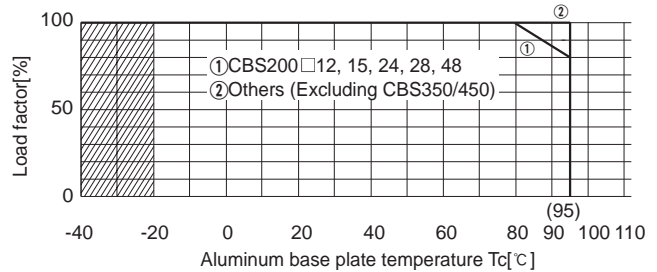

Fig. 6.6 Derating Curve Characteristics
Derating curve characteristics with respect to aluminum base plate temperature are shown in Fig. 6.6. Measure the temperature of the base plate in a location away from direct airflow (A). Note that operation within the hatched areas will cause a significant level of ripple and ripple noise.